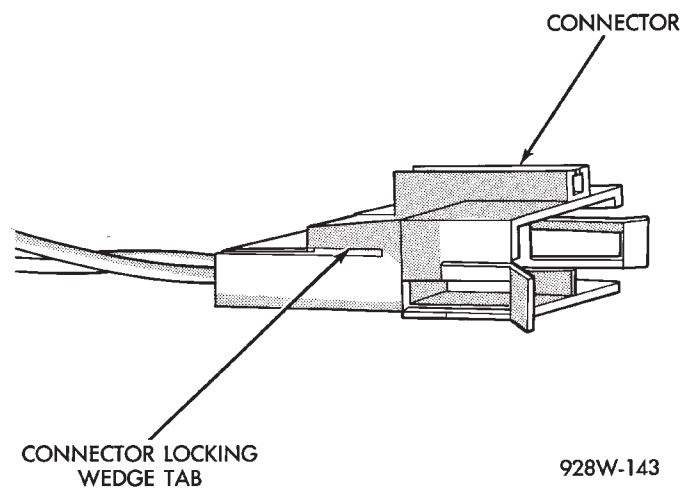

Fig. 8 Connector Locking Wedge Tab
- (1) Disconnect battery.
- (2) Disconnect the connector that is to be repaired from its mating half.
- (3) Remove connector locking wedge (Fig. 8).
(1) Disconnect battery.
(2) Disconnect the connector being repaired from its mating half.
(3) Remove connector locking wedge (Fig. 8).